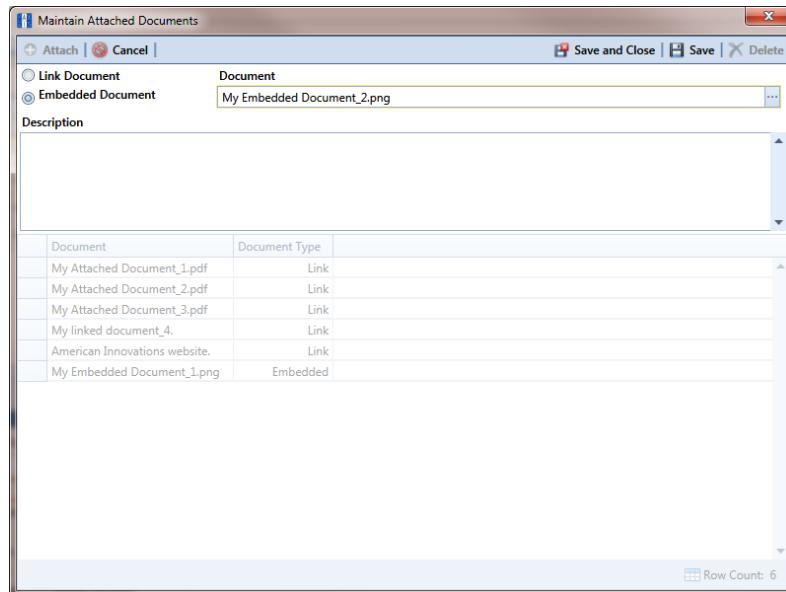

Figure 4-28. Embedded Document
- 9 If you selected *Embedded Document* in **step 6**, complete the following steps (Figure 4-28):